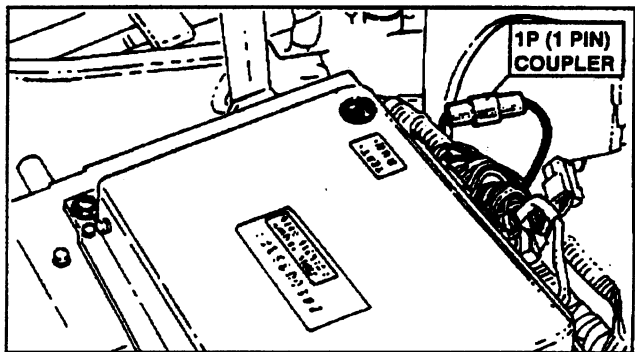

FIGURE 6.33
25. Remove the Special Adjustment Harness from the 1P coupler and connect 1P coupler together. See Figure 6.33.